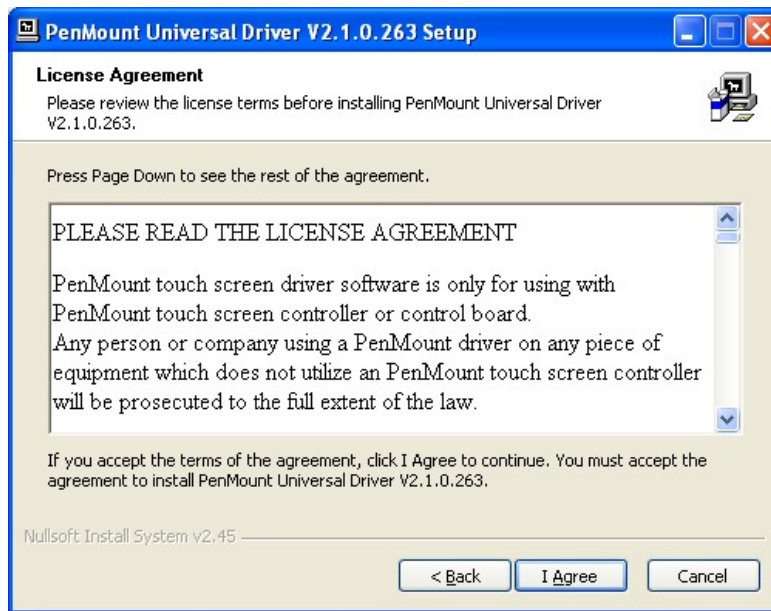

Figure 5-23: Touch Screen Driver License Agreement
Step 6: The **License Agreement** shown in Figure 5-23 appears.